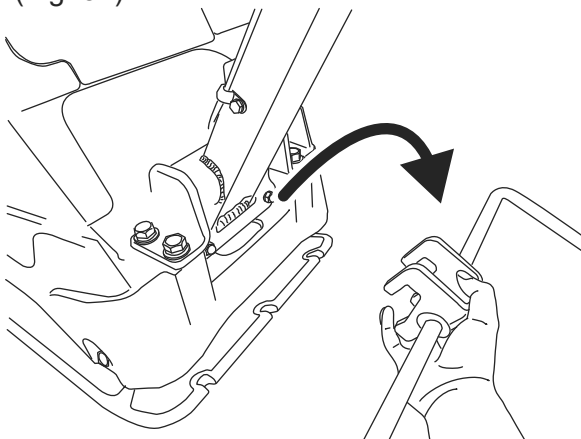

Fig.34
- 3 Remove the hook and dismount the cart. (Fig. 34)